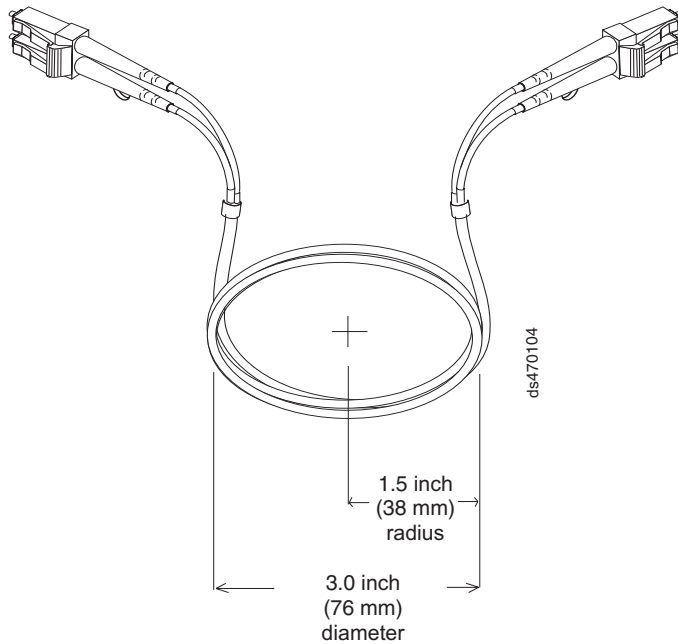

Figure 31. Recommended bending and looping specifications for fibre-optic cables
- When storing excess or unused fibre-optic cables, do not bend the cables to a diameter of less than 76 mm (3 in.), or a radius less than 38 mm (1.5 in.) or wrap them around themselves. See Figure 31 on page 56.